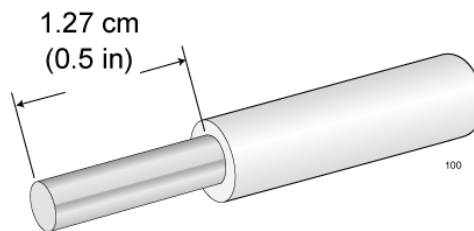

Figure 42. Stripping the Grounding Wire
1. Prepare an adequate length of stranded grounding wire (10 AWG) for the ground connection by stripping it as shown in Figure 42.